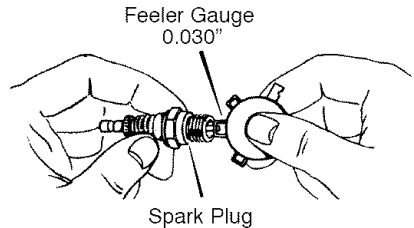

Figure 17
7. Set the gap between the electrodes of the new spark plug at 0.030 inch (Figure 17).